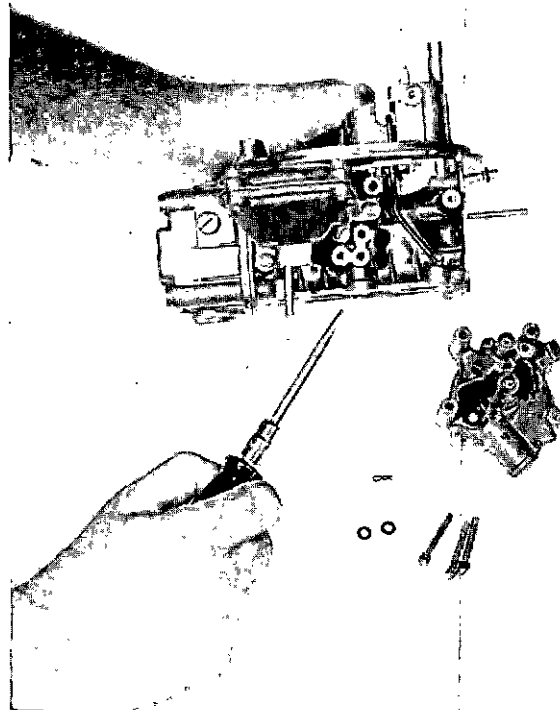

FIG. 27 Removal or Installation of Integral Automatic Choke
1. Remove integral choke assembly and fast idle cam (if used) (Figure 27).